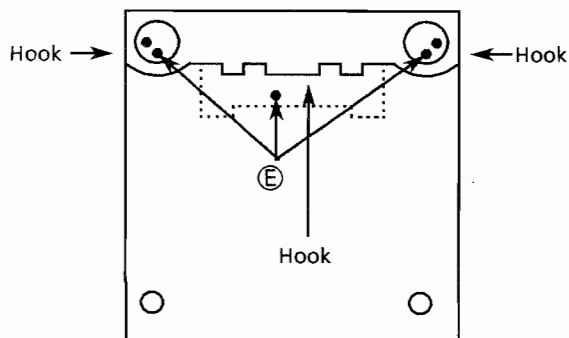

Fig 3 Bottom view
8. Release the 3 hooks to remove the assembly (Fig 3).